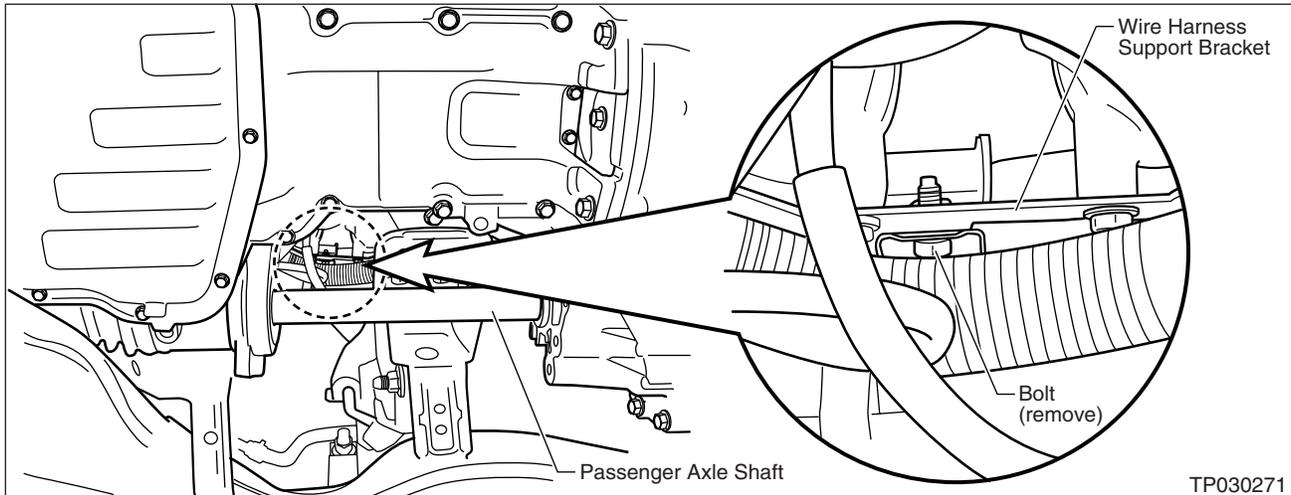

Figure H11
- Remove one bolt to release the Wire Harness Support Bracket (see Figure H11).